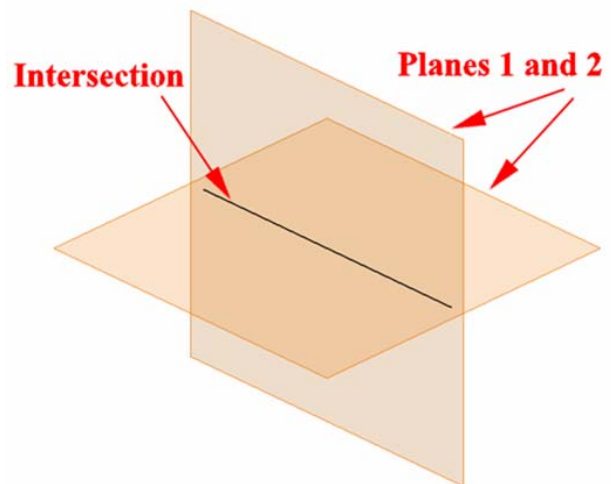

Figure 1-1J: Intersection of two planes (a straight line).
- **The intersection of two planes**: It is a straight line with all points common to two planes (*Figure 1-1J*).